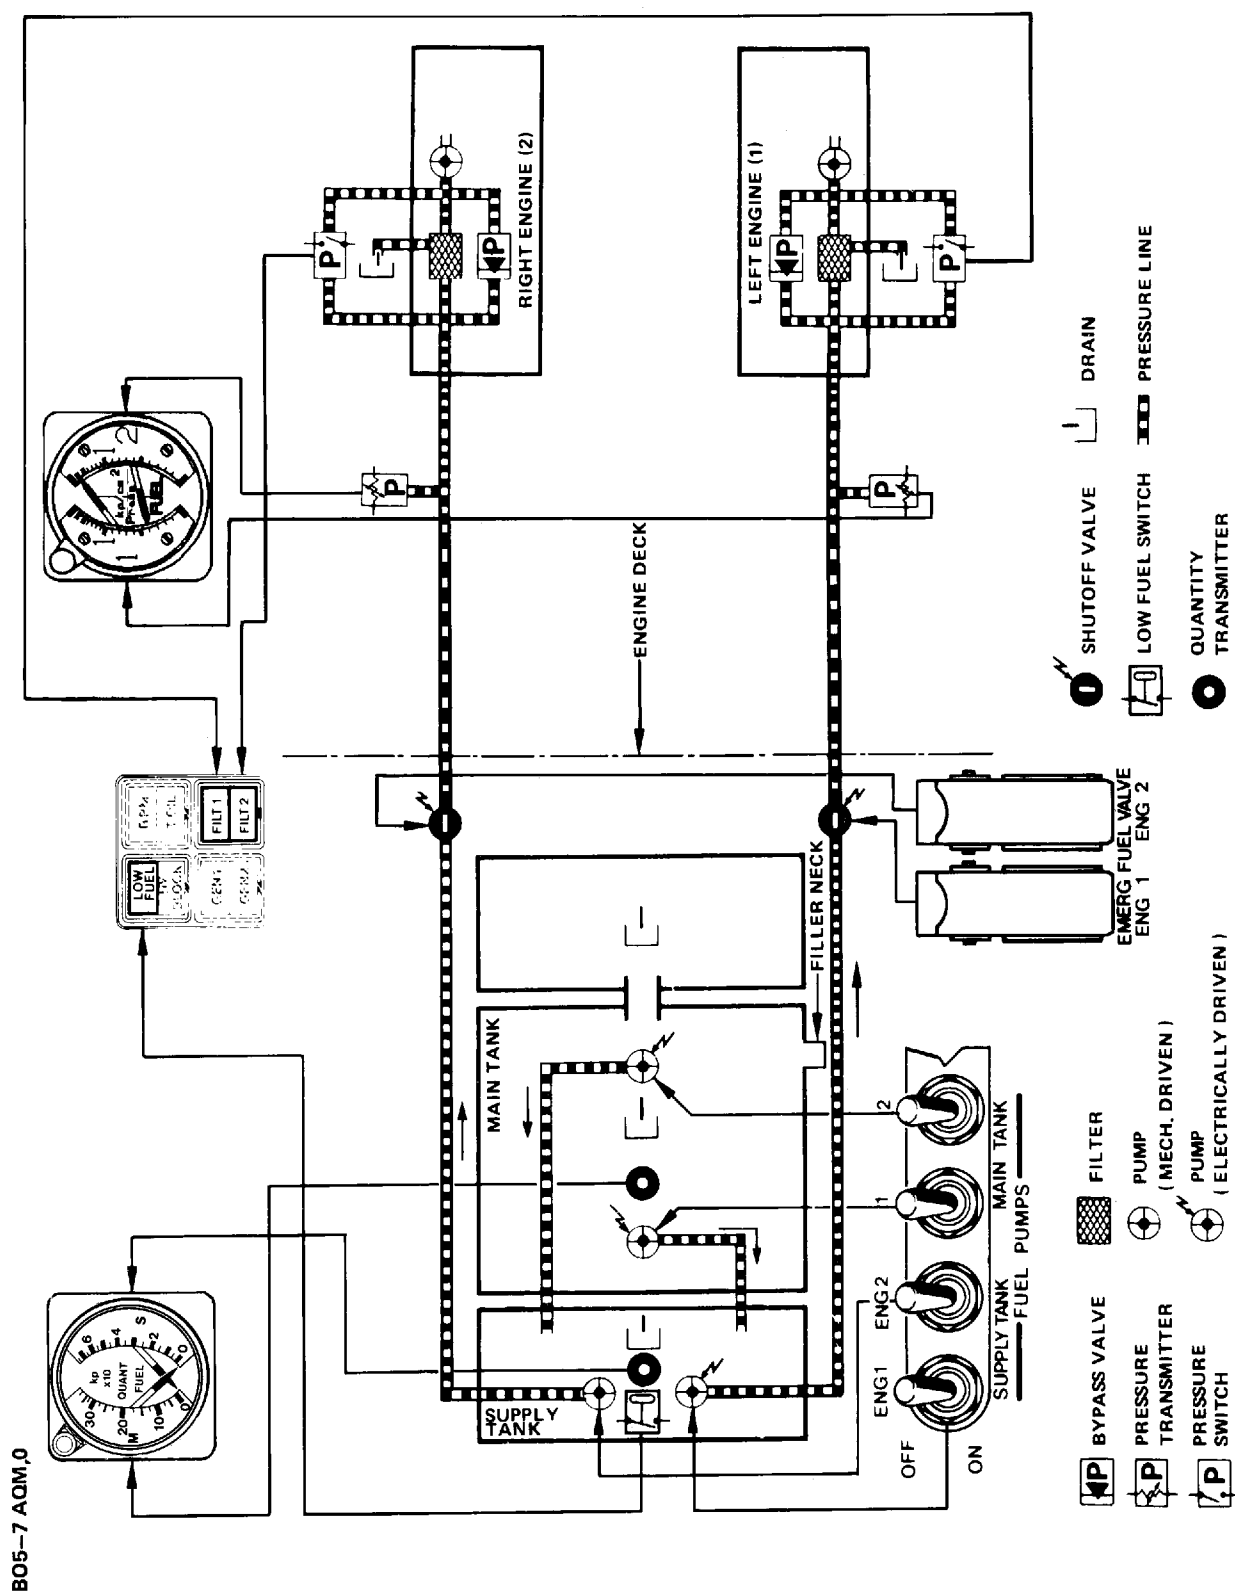

Fig. 7-8 Fuel System Schematic
7.6 FUEL SYSTEM (see Fig. 7-8)